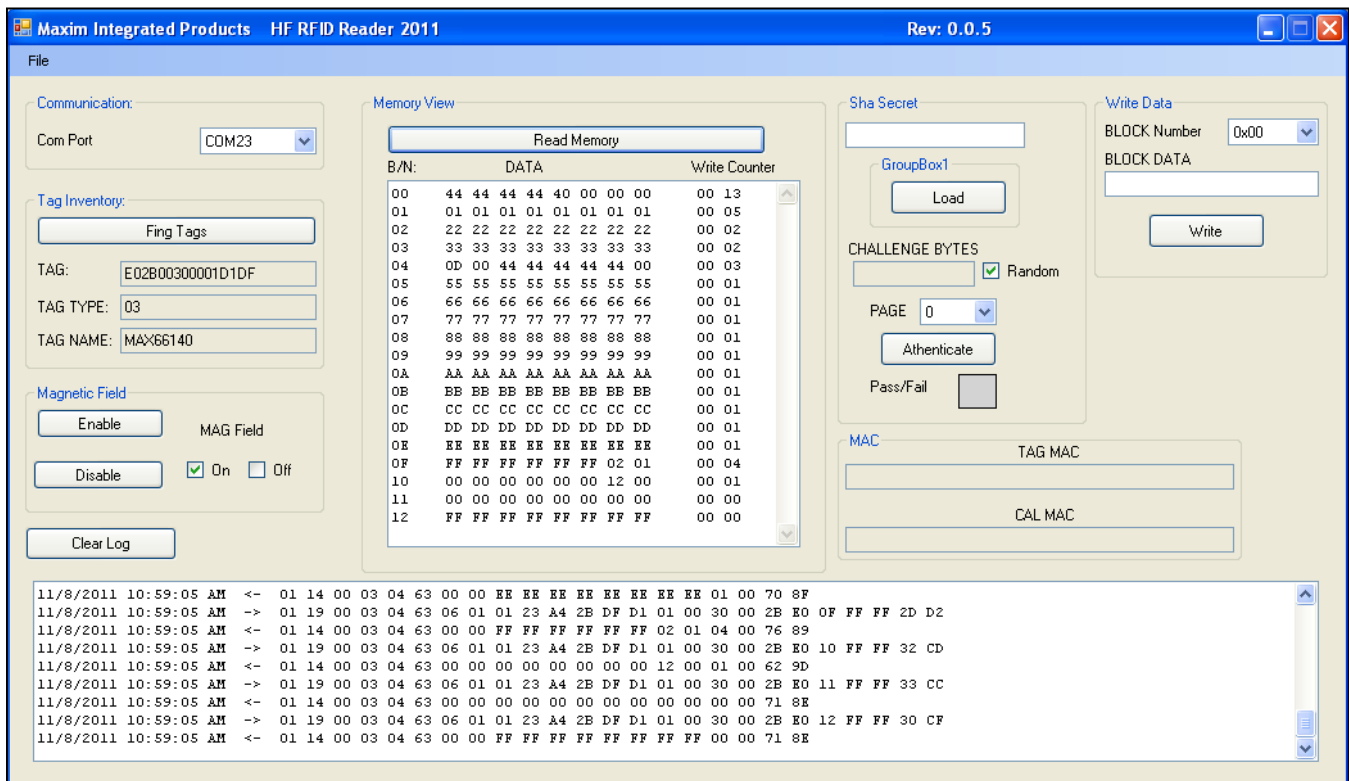

Figure 4. Select Read Memory
- 8) Read and display the memory of the tag by pressing the **Read Memory** button. This can only occur if a tag has been found. See Figure 4.